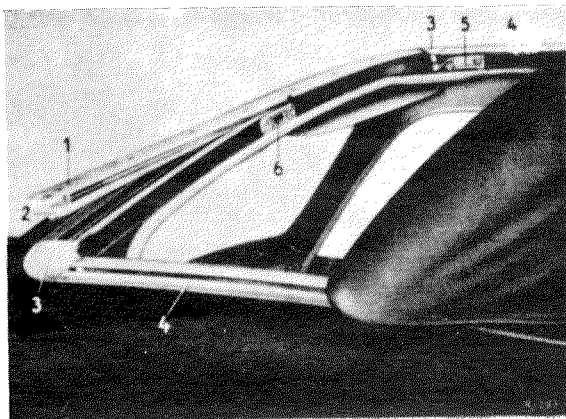

Fig. 78—2/1
- a) Guide rail (4), left and right (Fig. 78—2/1).
- b) Cover rail (1), front, with spacer molding (2).
- c) Angle plate (3), left and right.
- d) Curved fitting (5), left and right.
- e) Anchor plate (6) at cowl center top.
2. Unscrew the left and right guide rail (4) and carefully lift it off (the guide rail is sealed by means of Plasticine and adhesive tape) (Fig. 78—2/1).
4. Unscrew and remove the front cover rail (1) together with the wooden spacer molding (2) (Fig. 78—2/1).
6. Remove the adhesive tape at the wooden spacer molding (2).
7. Unscrew the angle plate (3), the curved fitting (5), and the anchor plate (6) (Fig. 78—2/1).